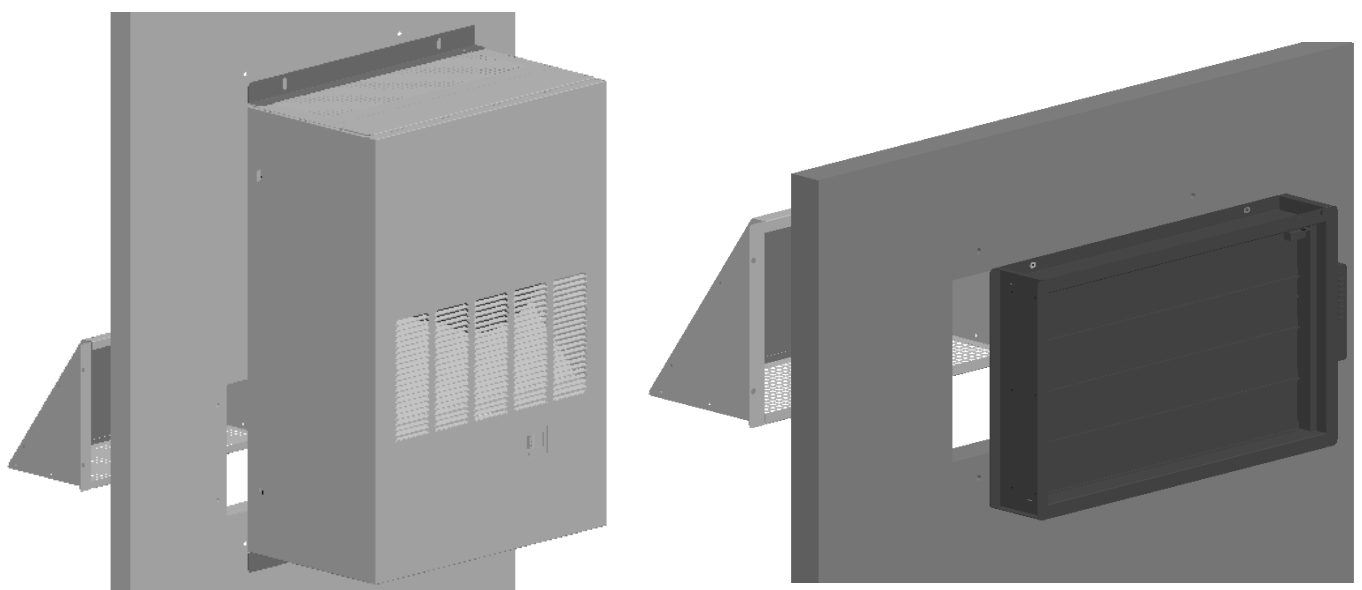
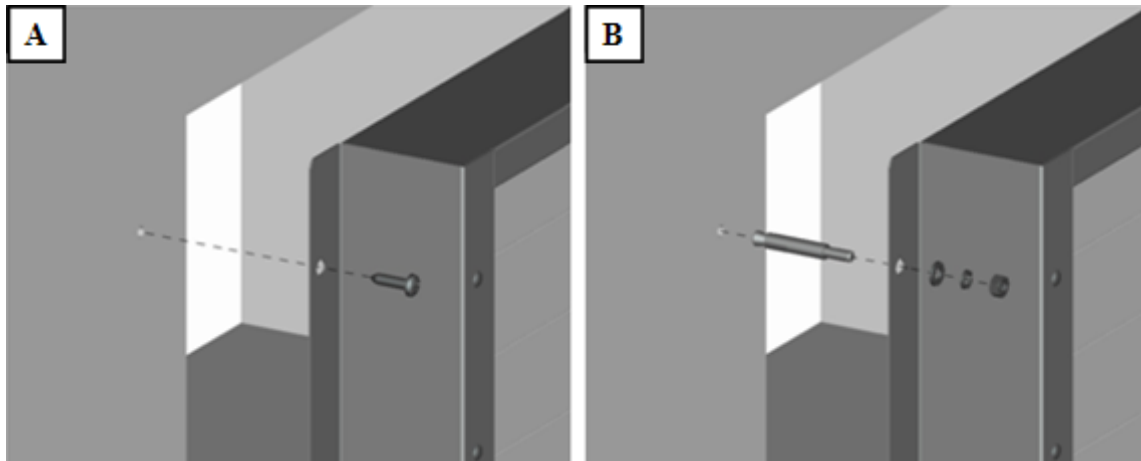

Fig 4.2.4
Fig 4.2.5
- Screw the units as shown in Fig 4.2.4 and Fig 4.2.5.